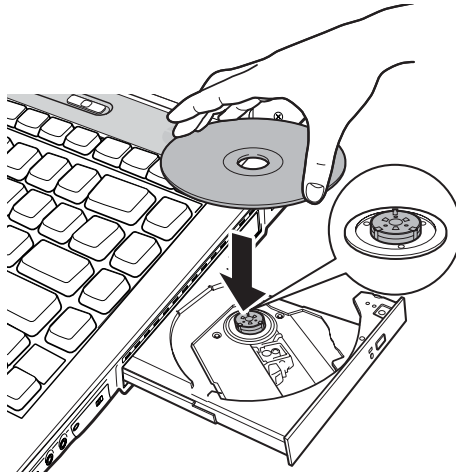

Figure 4-6 Inserting a CD/DVD
**NOTE:** When the drawer is fully opened, the edge of the computer will extend slightly over the CD/DVD tray. Therefore, you will need to turn the CD/DVD at an angle when you place it in the tray. After seating the CD/DVD, however, make sure it lies flat, as shown in figure 4-6.